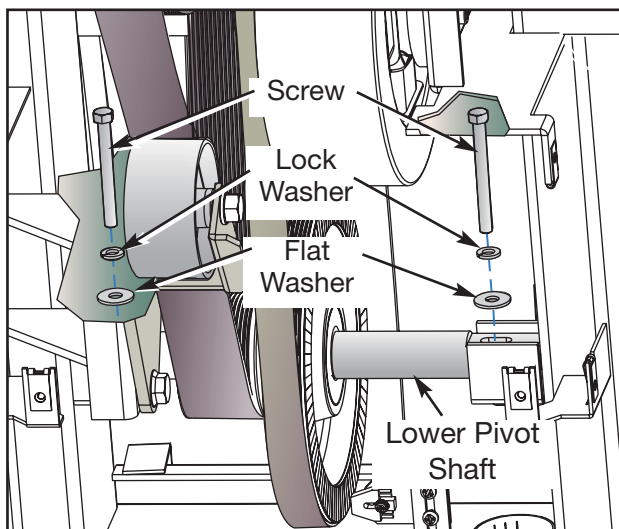

Figure 7
- A. Using a 7/16" socket wrench, remove the two screws, two lock washers and two flat washers from the lower pivot shaft. See Figure 7. **NOTE:** The tension is now released. The primary belt can be replaced without loosening the idler pulley.